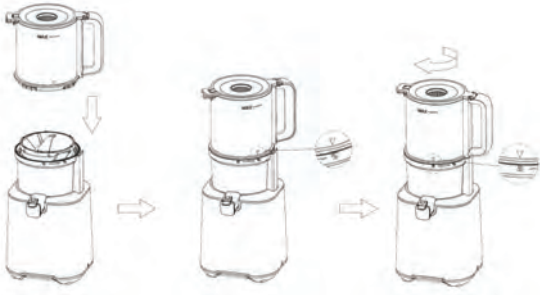

Fig.5
3. Assemble the feeding jar on the juicing jar correctly. Firstly, put the feeding jar downwards and make the symbol “▲” on the feeding jar align with the symbol “◻” on the juicing jar and then rotate the feeding jar clockwise until the symbol “◻” on the juicing jar aligns with the “▲” on the feeding jar (see Fig.5). Make sure the feeding jar is assembled in position properly otherwise the appliance will not operate. To disassemble the feeding jar from the motor unit, rotate it anticlockwise.